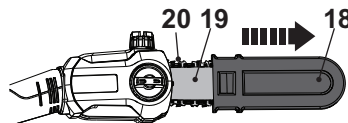

Fig. 4
1. Remove the guide bar cover (18) from the saw chain (20) and the guide bar (19) before operation (Fig. 4).
2. Keep the guide bar cover (18) safely.